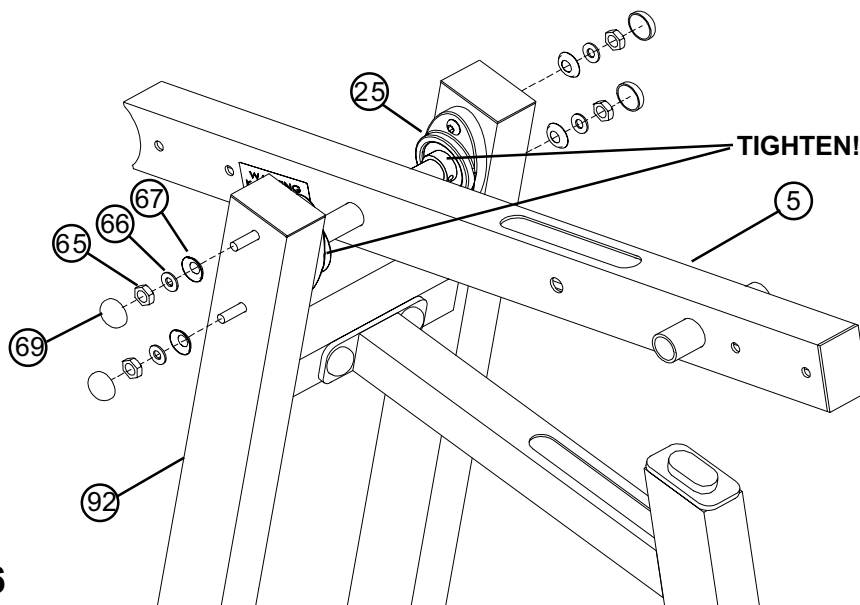

FIGURE 26
- **SECURELY** assemble the PIVOT ARM (5) to the LEG CURL/EXT FRAME (92) using four previously inserted 3/8 X 76mm BUTTON HEAD BOLTS (63), four RH WASHERS (67), four 3/8\" SAE WASHERS (66), four 3/8\" LOW HEIGHT LOCK NUTS (65) and four RH CAPS (69) as shown in FIGURE 26.
- **IMPORTANT!** When PIVOT ARM (5) is centered and level in the PILLOW BLOCKS (25), tighten the PILLOW BLOCK set screws.